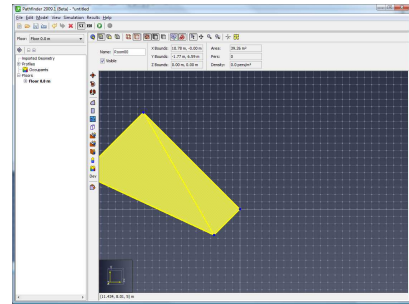

Figure 123. Rotated object
- The third defines a second vector extending from the rotation base (Figure 123). The rotation angle is the angle between these two vectors.